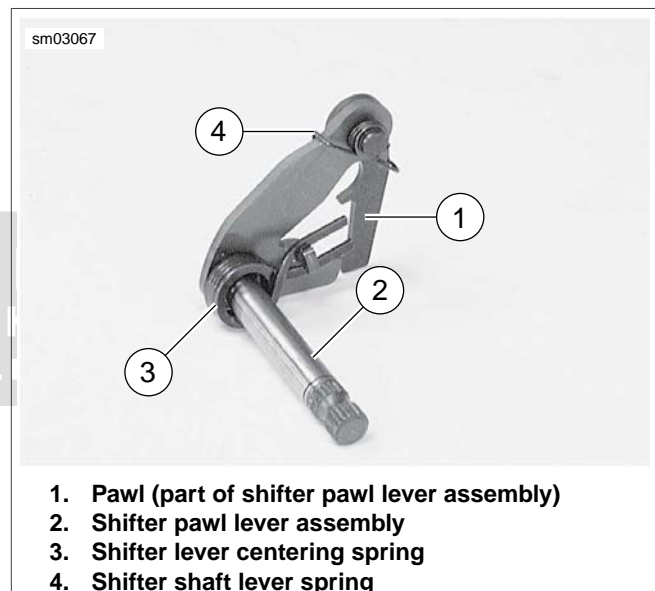

Figure 6-53. Shifter Pawl Lever Assembly
2. See Figure 6-53. Slide shifter lever centering spring (3) over shaft of shifter pawl lever assembly (2). Align opening on spring with tab on lever.